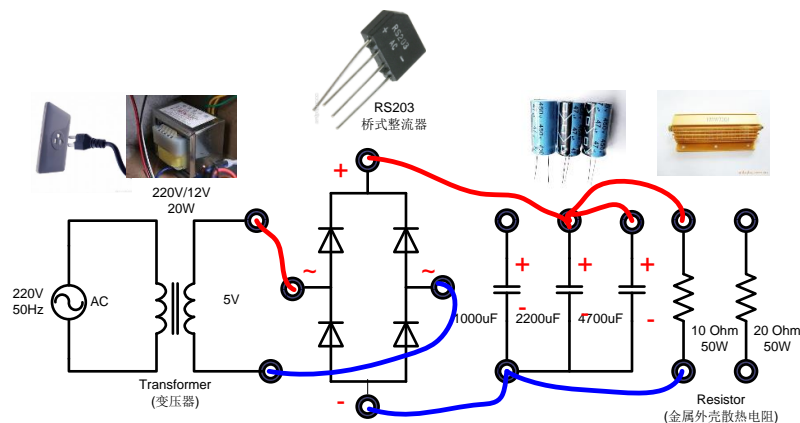

Figure 9: Full-wave rectifier with capacitive filter of 6900µF
- Turn off the power supply unit and add 4.7mF capacitor to the filter as shown in Figure 9.
- Configure the full-wave rectifier circuit as shown in Figure 9.